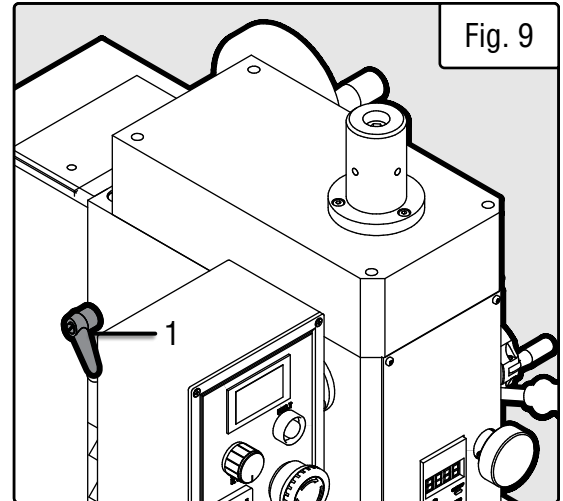

Fig. 9
2. Loosen the Z-axis lock handle (Fig. 9 - 1).